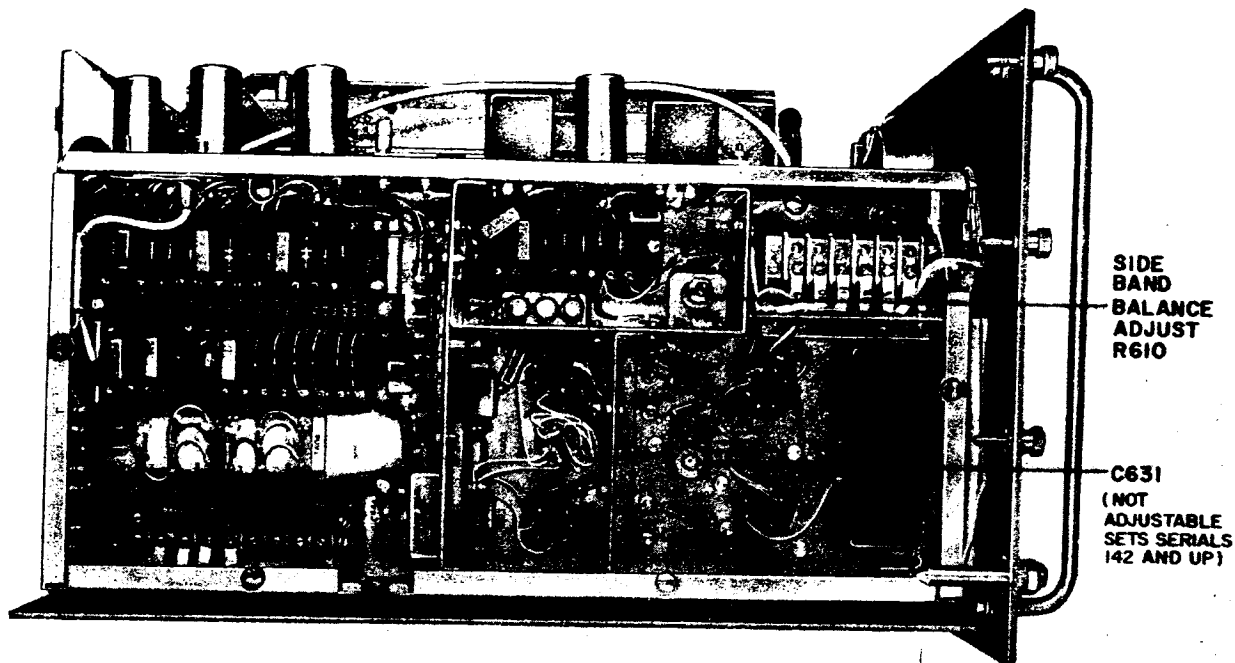

Figure 6-5. Electrical Frequency Control C-2861/WRT-1, Left Side View, Electrical Adjustment
(4) FREQUENCY COMPARATOR ADJUSTMENTS.—The only adjustments to be made in the frequency comparator are the adjustment of the SIDEBAND BALANCE ADJUST potentiometer R610 and (in sets serials 1 to 141) the adjustment of C631. Before proceeding to make these adjustments, make sure the controls on the front panel of Transmitter Group OA-2321/WRT-1 have been set as shown in paragraph 6-2d(2) then proceed as follows:
Step 7. For sets serials 1 to 141, refer to figure 6-5 and adjust capacitor C631 for a maximum reading on Carrier Frequency Voltmeter Sierra Model 101 (or equivalent). Note this value, which will be used as a reference level.
Step 8. Set TUNING (A) control to the 40-50 kc band.
Step 9. Refer to figure 6-5, and adjust SIDEBAND BALANCE ADJUST potentiometer R610 for a minimum reading on Carrier Frequency Voltmeter Sierra Model 101. This reading must be at least 20 db below the reference level.
(5) CRYSTAL OSCILLATOR AND MIXER CIRCUITS.